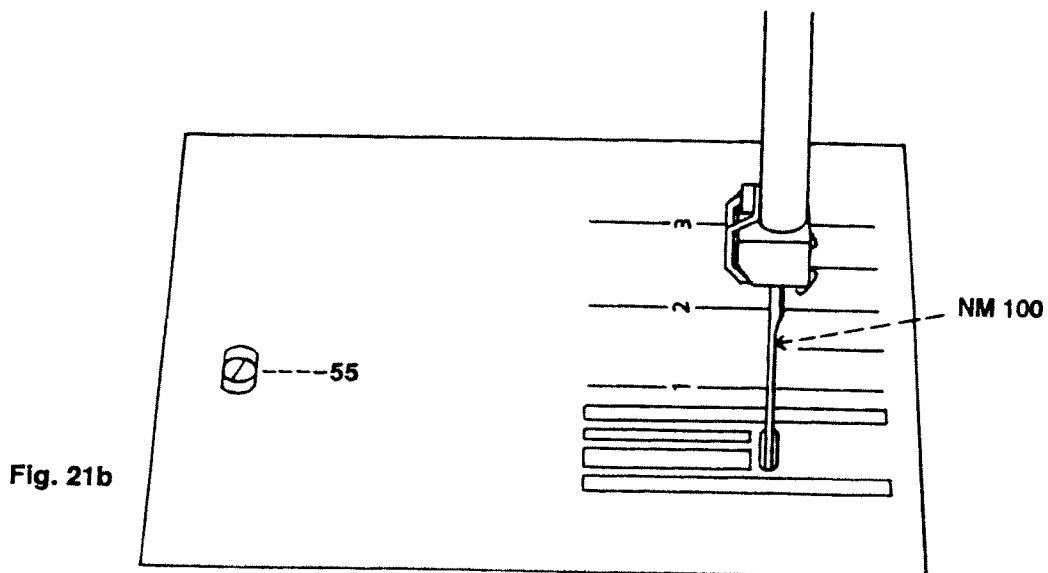

Fig. 21b
- Turn adjustment eccentric 55 until the distance from the front and rear edges of the needle hole is equal (fig. 21b).